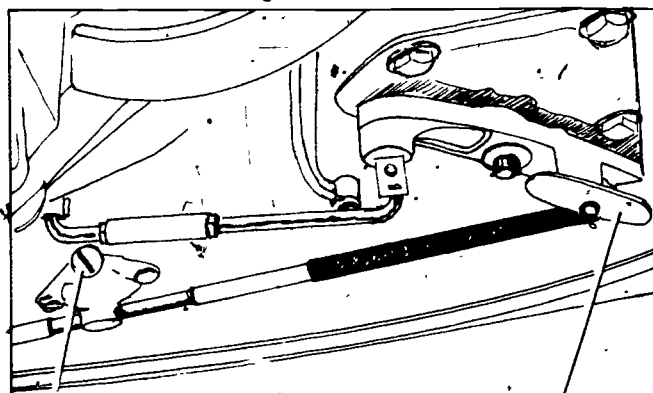

FIGURE 4
4. Snap cable end latch over cable end, and lock barrel in socket (Figure 4)